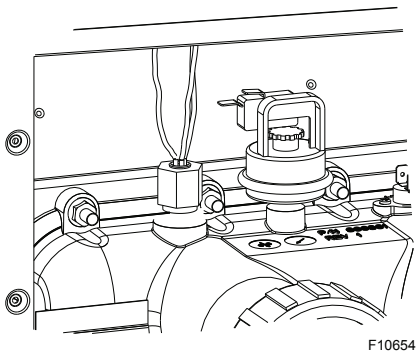

Figure 35. Digital Temperature Sensor Location
3. **Digital Models:** Remove the thermostat temperature sensor by loosening the compression fitting nut. Re-route the sensor to left side of the heater. See **Figure 35**.
4. Remove (12) nuts holding the inlet/outlet and return headers to the tube sheets. Clean off tube sheet area where the gasket seats. Also clean off the header and the gasket. Apply a non-petroleum-based lubricant to the gasket such as Aqualube. Re-attach the headers to the opposite sides, making sure they are installed in an upright position. Do not over-tighten. Torque should not exceed 7 ft/lb. See **Figure 35**.